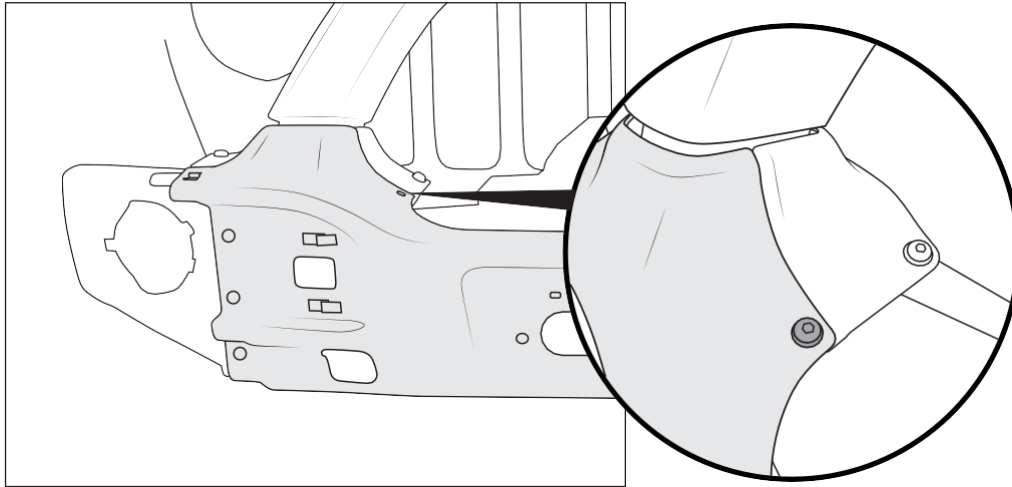

Figure 22
2. Install center section onto front of vehicle. It should pass over the offset front portion of the tube closeout stampings. Center can be retained by passing black M8x25mm button head bolts with wash-ers through the top inboard holes and through the tube closeout stamping. Loosely install black flange nuts from the back side (fig. 22). If using AEV winch plate, remove then reinstall black M10x25 bolts and washers from winch kit through the bottom of the center section and into the weld nuts in the winch plate (see fig. 22). Remove the outer bolts holding the tube closeouts in place so that corners can be installed.